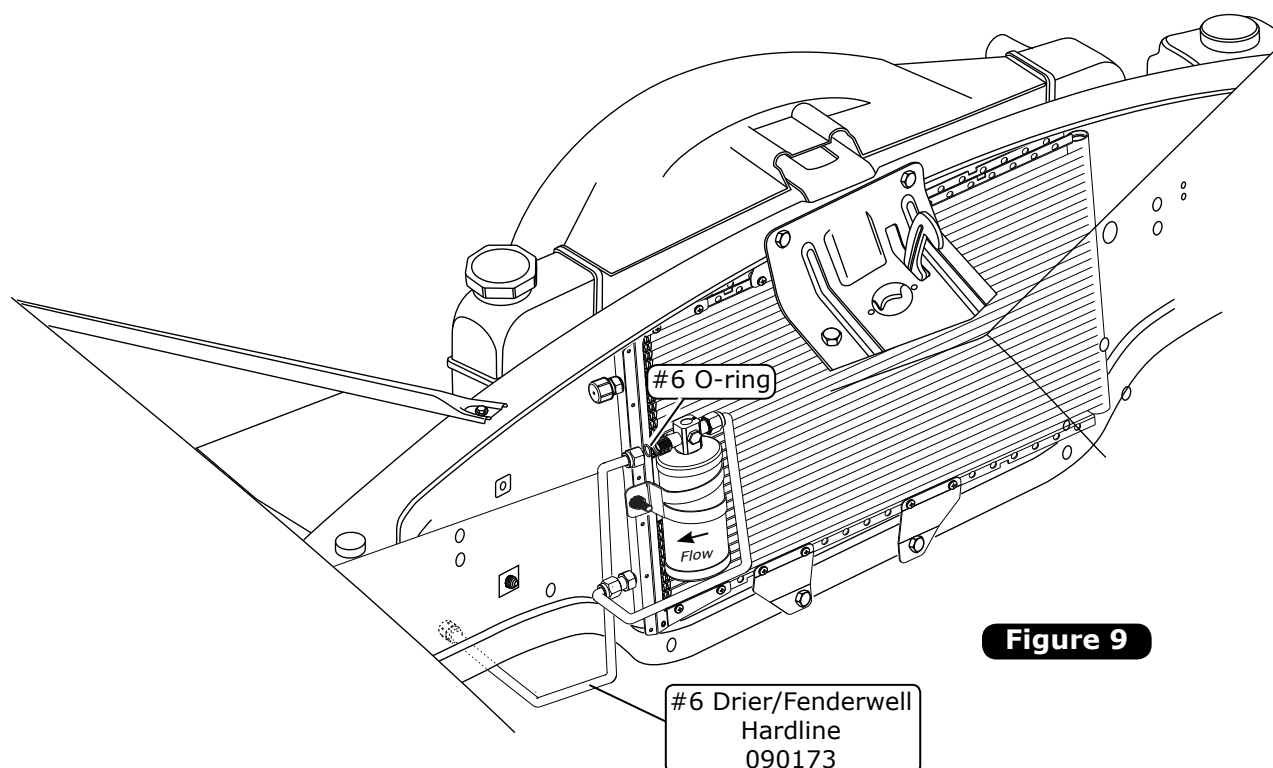

Figure 9
2. Lubricate a #6 O-ring, and install the #6 drier/fenderwell hardline as shown in Figure 5, Page 8, and Figure 9, below. Tighten the fittings as shown in Figure 5, Page 8.